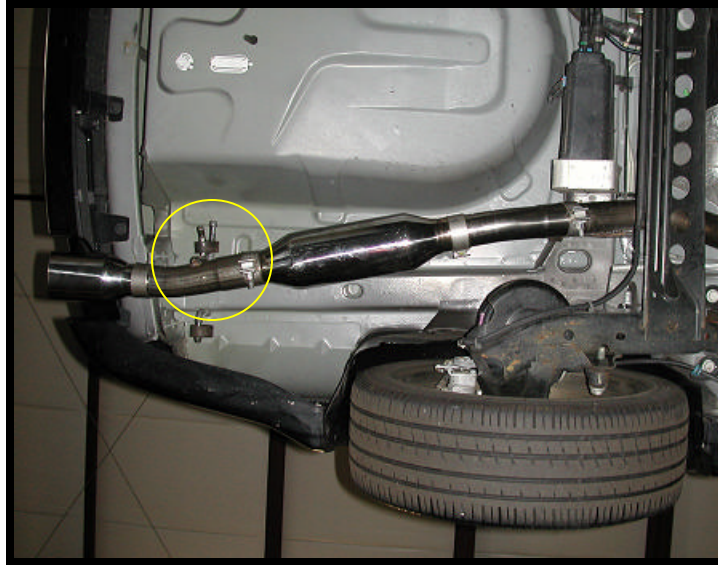

Figure 3: Tailpipe Section Installed
- 9 After the tail pipe section is assembled, install the tailpipe assembly onto the rubber isolator and then onto the over-axle pipe. Tightening the clamp enough to hold the assembly in place, see figure 3.